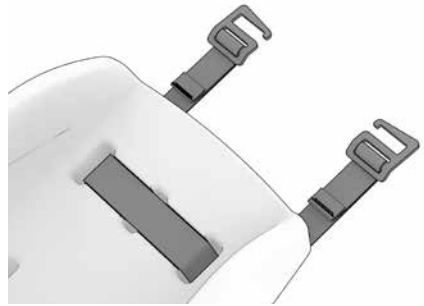

Fig. 13
Thread the connecting straps (9) into the Infant-Sling-Mount, then place one right G-hook and one left G-hook (5) and (6) at the ends (Fig. 13).